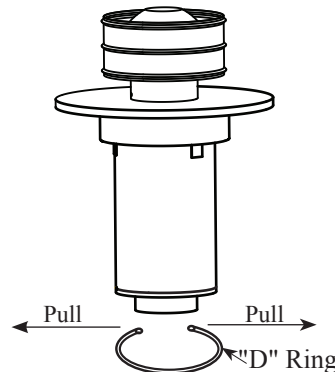
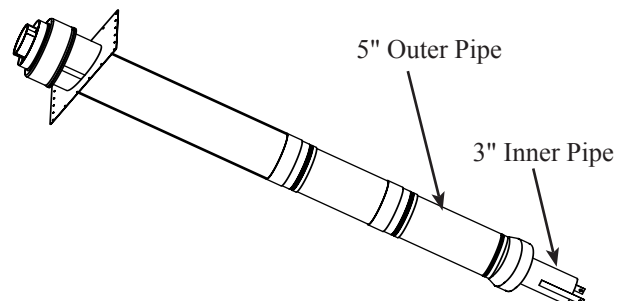

Figure 3 -Upper Roof Jack Module
Figure 4 - Lower Roof Jack Module
- 5** **Selecting the roof jack module.** The Co-axial vent roof jack is divided into two modules. The lower module (See Figure. 4) should be installed on the water heater at the factory location. The upper roof jack module (See Figure. 3) should remain in the co-axial carton box and shipped inside the manufactured home for assembly and setup at the permanent location of the home.
A. Disassemble the upper roof jack module by expanding the "D" ring as shown in Figure 3. **DO NOT** remove the silicone band attached to the 3" pipe; it will be used for final assembly at the permanent location of the home.
C. Place the upper roof jack module back into the carton. Seal the carton with the bright orange Carton Warning Label (F) supplied. Make sure the carton box ships with the manufactured home for final assembly of the vent system at the permanent location of the home.
- 6 Lower Roof Jack Module Installation.** Install the lower roof jack module into the roof. The 3" inner pipe is supplied with two brackets attached at the lower end of the pipe to attach it to the top pan.(See Figure 4)